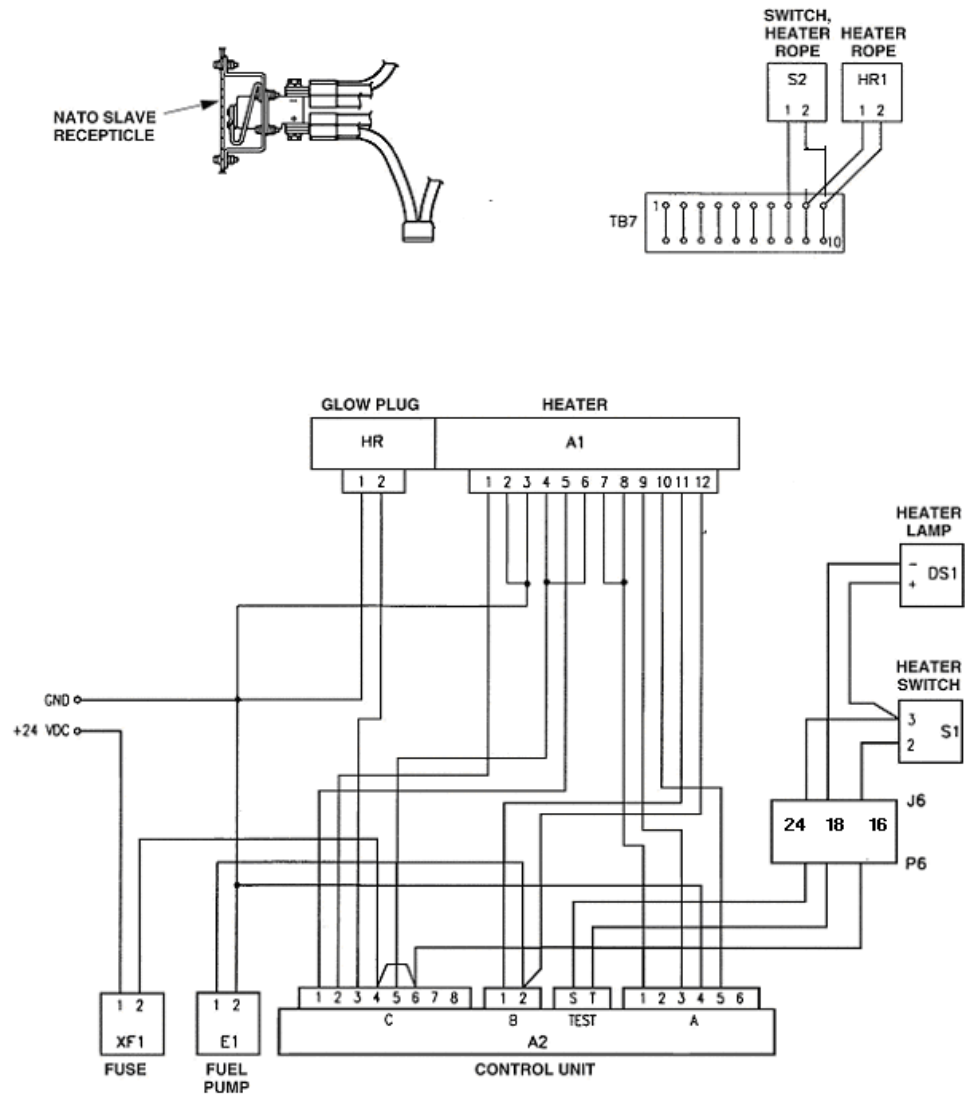

Figure 4-27. Wiring Harness Maintenance.
Test wiring for continuity (refer to Figure 4-27). Replace any open or broken wires or connectors.
2. Refer to Figure 4-27 and connect leads and plugs.